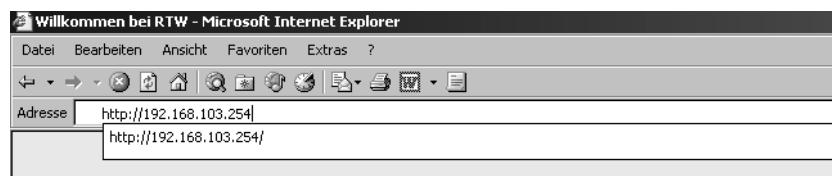

Fig. 8-19: Entering the IP-Adress
1. Start your internet browser and enter <http://192.168.103.254> in the address field (see Fig. 8-19) followed by the hit of the return (Enter) key.